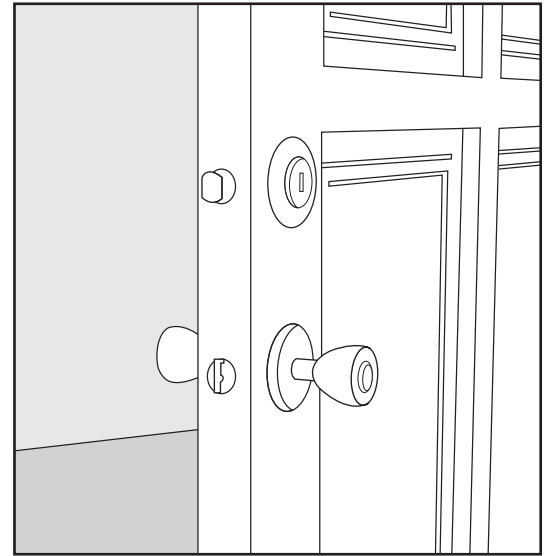
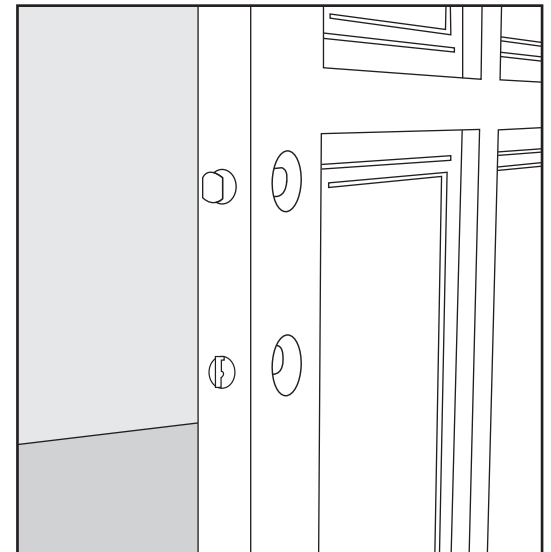

FIG. DS-01
FIG. DS-02
1. Open the door (FIG. DS-01) and remove both the upper and the lower lock assemblies (FIG. DS-02). The bolt and latch assemblies can stay in place. Ensure that components for each lock are kept together and separate from the other assembly parts.